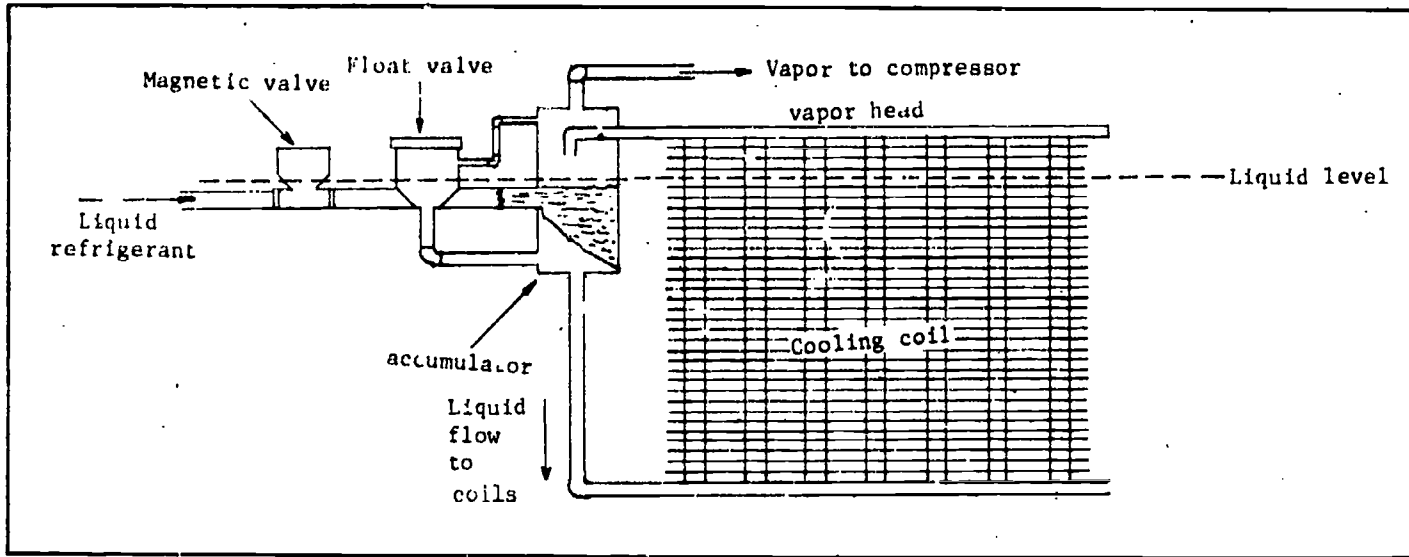

Fig 2-13. Diagram of flooded-coil evaporator.
- (1) **Direct-expansion-coil evaporators.** In this type of evaporator, the air to be cooled flows across the tubes and fins giving up heat to the boiling refrigerant in the tubes. This heat transfer causes the cooling of the air that is delivered to the environment. Direct-expansion coils can be either dry- or flooded-type valves.
- (a) In the flooded-type valve (fig 2-13), the refrigerant is metered into the evaporator coils by a float-type valve. This type of valve keeps the refrigerant in the evaporator at a constant level. In other words, as fast as the refrigerant boils away (evaporates), the float admits more liquid refrigerant to replace that which has been lost. This action of the valve keeps the evaporator almost full of refrigerant. The flooded-type evaporator is very efficient because vaporization of the refrigerant can only take place wherever it is in contact with the warm walls of the tubing. However, flooded-type coils are of little use, and are rarely used in air conditioning because of the relatively large refrigerant charge that is necessary to keep the system satisfied.